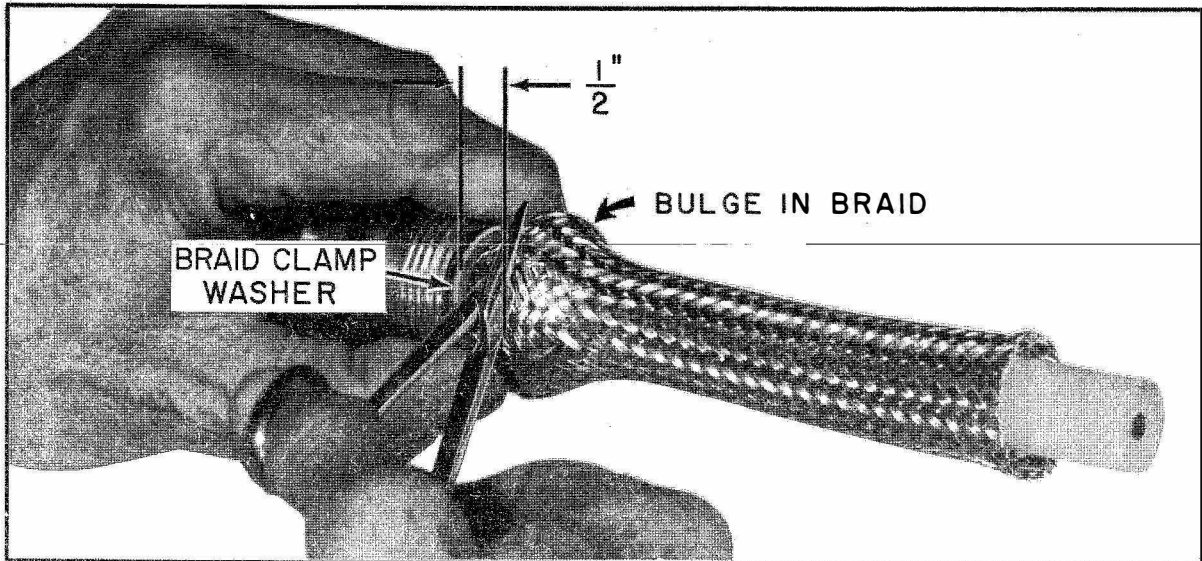
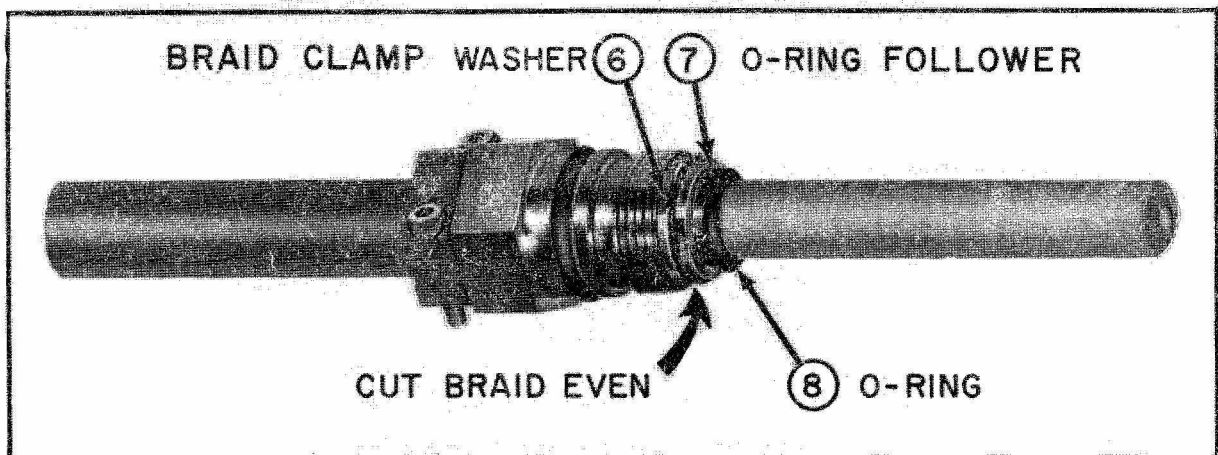

Figure 5-10f. Cutting Braid
Figure 5-10g. Cable Seal Nut Assembled
Step 6. - Slide braid clamp washer, piece 6; over the outer conductor braid and up against the end of the jacket. Make a bulge in the outer conductor braid and cut it off 0.5 inch from the braid clamp washer as illustrated in figure 5-10f. Fan out the braid and fold back against the braid clamp washer. Slide U-ring follower, piece 7, flat side first, over the dielectric and against the fanned out braid. Cut the braid even with the braid clamp washer and U-ring follower. Remove any pieces of braid on the cable seal nut or cable dielectric. Lubricate U-ring, piece 8, with insulating compound and slide over the dielectric and against the U-ring follower. Figure 5-10g shows the cable seal nut assembled on the RF cable.